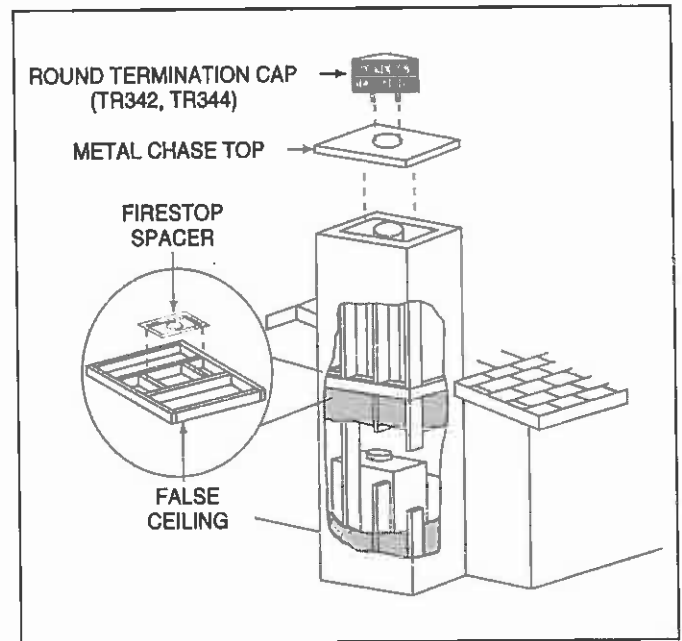

Figure 20
- In cold climates, the walls of the chase should be insulated to the level of the false ceiling as shown in Figure 20. This will help prevent heat loss from the home around and through the fireplace.